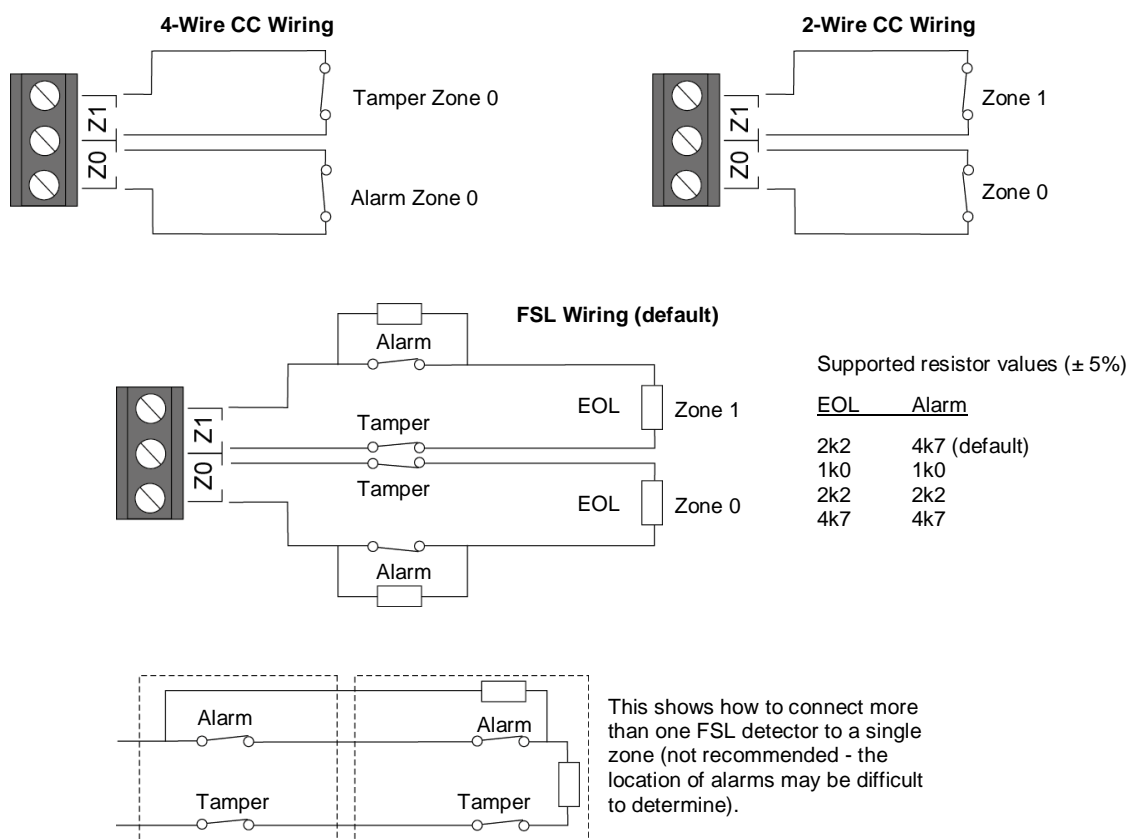

Figure 24. Zone wiring
You can connect up to 10 wired detectors (0 to 9) using the Fully-Supervised Loop (FSL), 4-wire Closed Circuit (CC) or 2-wire CC wiring method (Figure 24). You must use the same method for all detectors connected to the control unit. If 4-wire CC is used, the number of zones is halved. To maintain ten 4-wire CC zones, fit an ADP-10CC board and configure the resistance setting of each zones as 2k2/4k7.